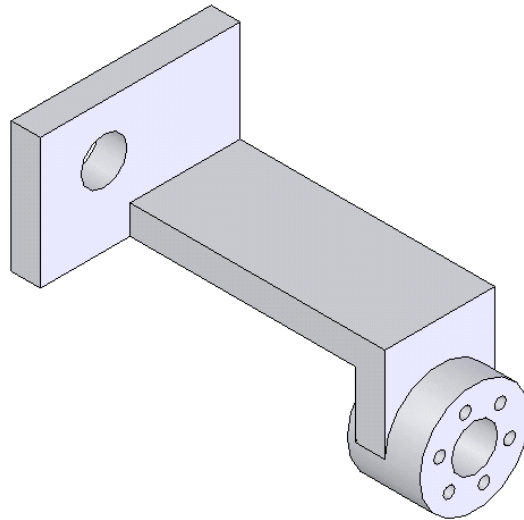

Figure 7-69 Model after adding all the hole features
- f. Create the hole feature on the base feature, refer to Figure 7-69.
1. The seventh feature of this model is also a hole feature. This hole feature will be placed on the right planar face of the base feature. Therefore, after selecting the right planar face of the base feature, place the hole feature. After placing the hole feature define the placement of the hole feature by adding the required relations and dimensions. Figure 7-69 shows the model after adding the hole features.